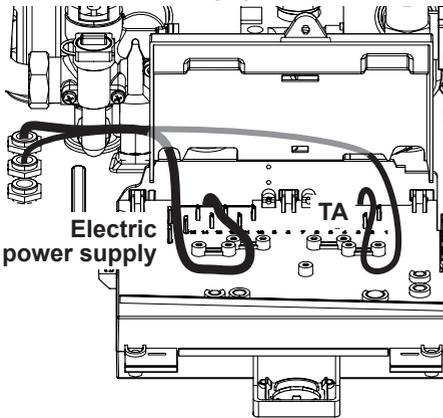

Figure 5.19
- Connect the electric power supply cable to the multi-way switch, respecting the correspondence of the power line (brown wire) and the neutral (blue wire) Figure 5.19.